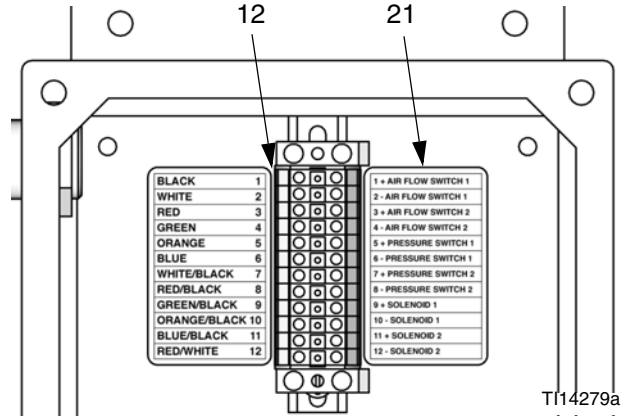

Fig. 8. Connect Solenoid to Terminal Strip
2. Connect the wires from SO#1 to the right side of the terminal strip (12), as indicated by the label (21); red (+12V) to pin 9, black (COM) to pin 10. See Fig. 8 and Table 1.
3. If using a second gun flush box, connect the wires from SO#2 to the right side of the terminal strip (12), as indicated by the label (21); red (+12V) to pin 11, black (COM) to pin 12. See Fig. 8 and Table 1.